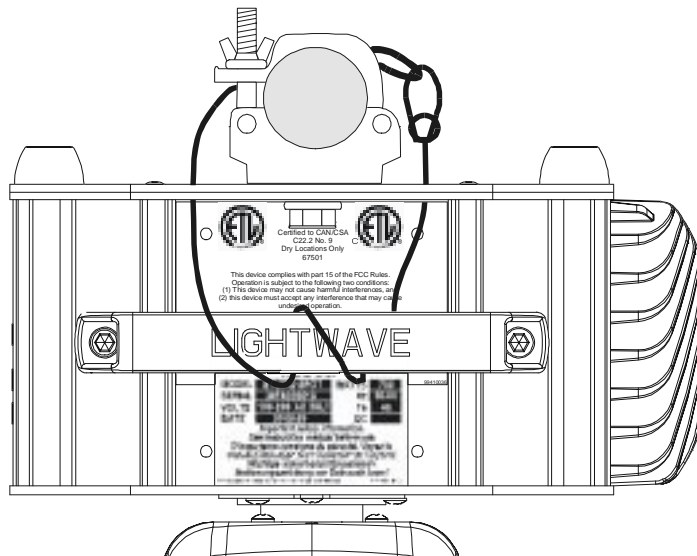

Figure 1.8 Safety Cable Installation
3. Connect the safety cable ends by looping the cable over the truss, running it through an outer hole on the base of the fixture, around the handle, and out the other outer hole. Refer to Figure 1.8. Repeat this step to install another safety cable on the other side of the fixture.